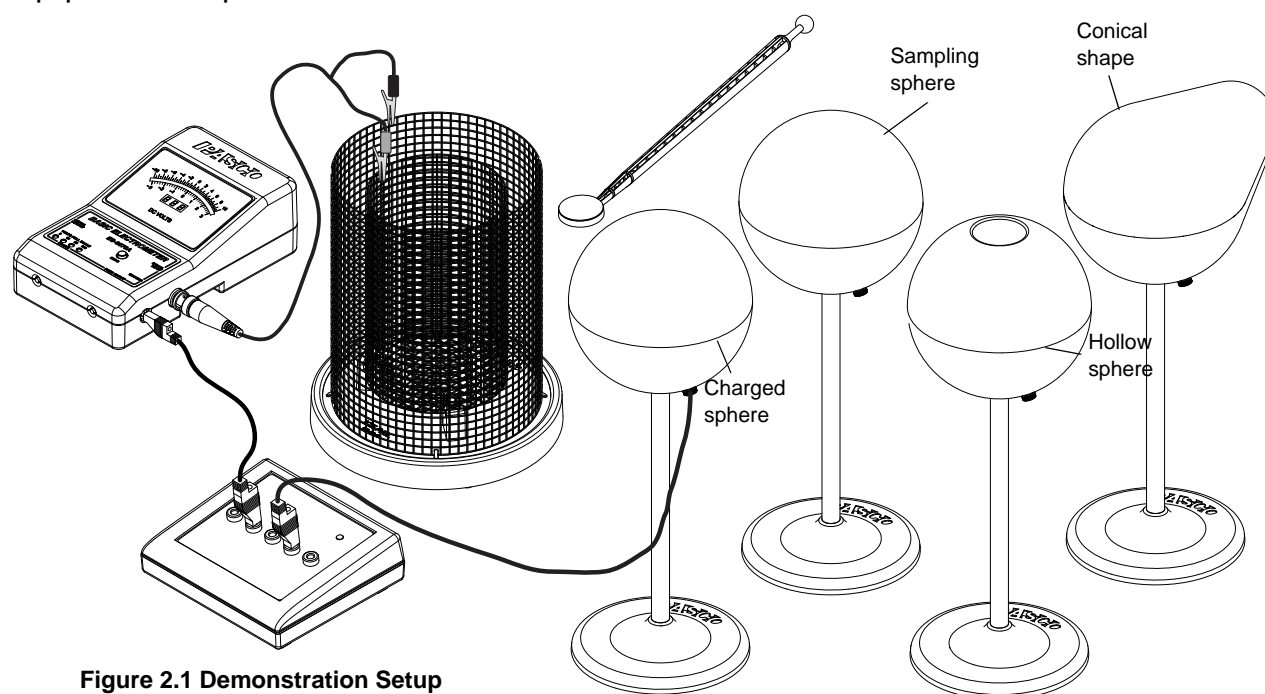

Figure 2.1 Demonstration Setup
1. Before starting, make sure the Faraday Ice Pail is properly grounded, with the shield connected to earth ground. The electrometer, connected to the pail, must also be grounded (for example, when connected to the COM port on the electrostatics voltage source). Follow the setup in Figure 2.1, with the black lead connected over the edge of the shield and the red lead connected over the edge of the ice pail.